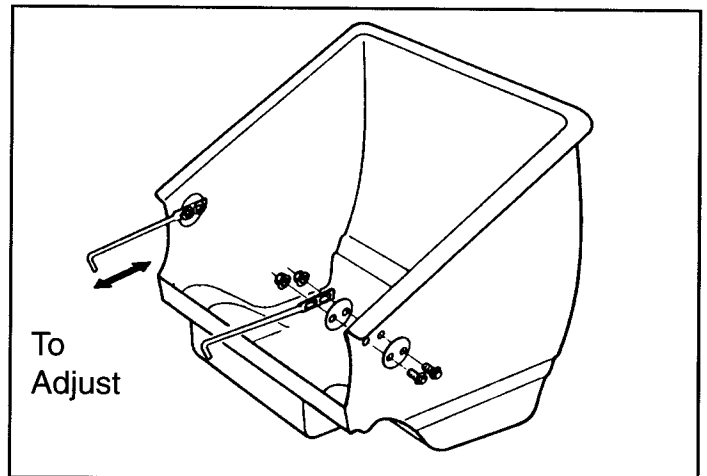

Fig. 6
1. **SEE FIG. 6:** Loosen catcher hook, nuts and bolts. Remove front nut and bolt from each catcher hook. Then raise catcher hooks and fasten both hooks with the bolts. Leave bolts loose until catcher is adjusted for proper clearance from the reel blades.